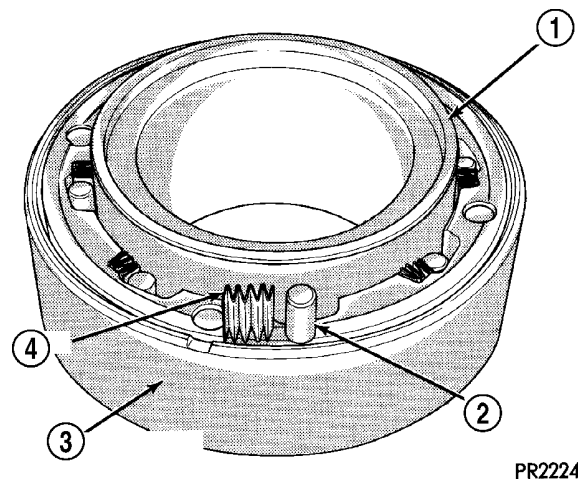

Fig. 47 Install Overrunning Clutch Rollers and Springs
(3) Assemble Tool L-4440 to overrunning clutch as shown in (Fig. 47).